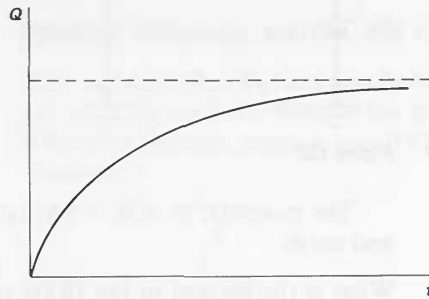

Figure I53
- 7(I)** Figure I53 represents a typical graph of charge against time for a capacitor being charged.